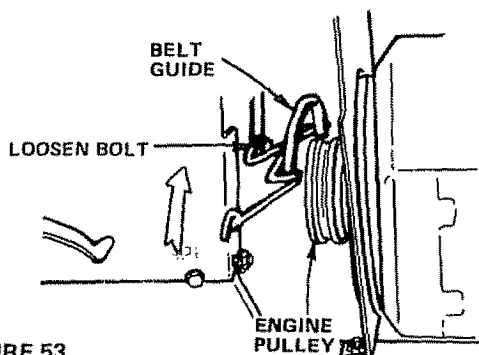

FIGURE 53
- Loosen (do not remove) two Engine Pulley Belt Guide Bolts and swivel R.H. side of Belt Guide up. Tighten L.H. Bolt to hold Belt Guide in position (Fig. 53).